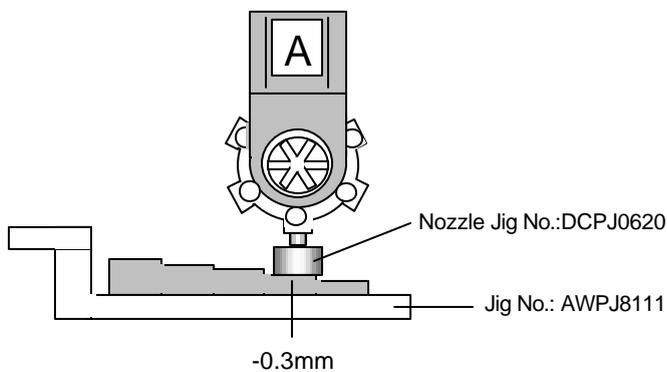

Figure 52
2. After the Z- axis adjustment is completed, clamp the jig plate (fig. 52) in the middle of the table, and install the nozzle jig in the A holder.